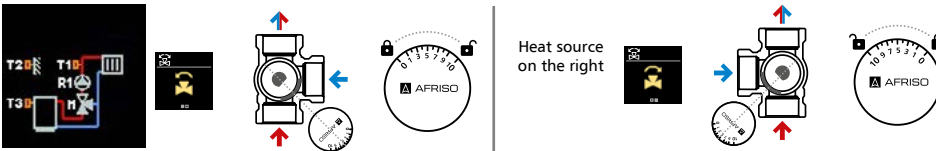

Fig. 9. Diagram with a 3-way mixing valve mounted on the supply pipe (radiator or manifold heating).
- The appropriate T1, T2, T3, and T4 temperature sensors should be mounted in accordance with the chosen diagram (Fig. 9., Fig. 10., Fig. 11.) by using the adapters included. The T2 sensor is an external sensor which should be mounted outside, on a north-facing wall, a minimum of two meters above ground level.
Select the appropriate diagram in accordance with the mounting position of the mixing valve in the system. The available diagrams are: two diagrams with the mixing valve mounted on the supply pipe (Fig. 9.), two diagrams allowing connection of another controller using BUS communication (Fig. 10.), and two diagrams mounted on a 4-way valve (Fig. 11.).
In the last step, you need to select the right scale, either "0 to 10" or "10 to 0", corresponding to the chosen diagram (Fig. 9., Fig. 10., Fig. 11.). To change the scale, you need to lift up the plate, and put it on again facing the other side.